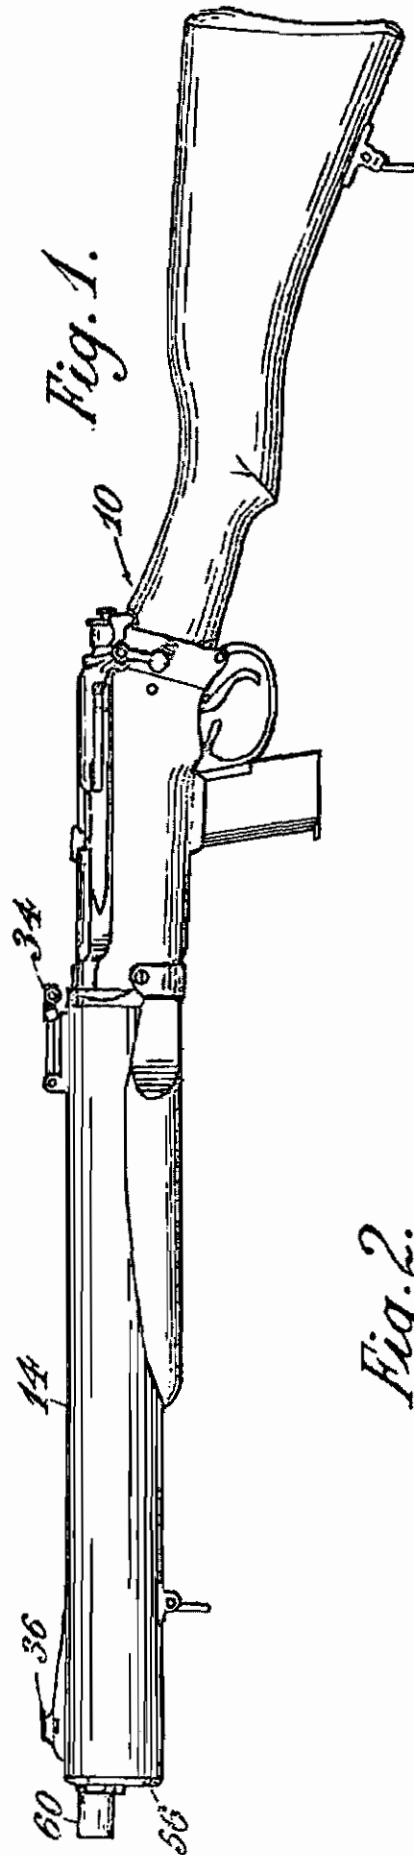
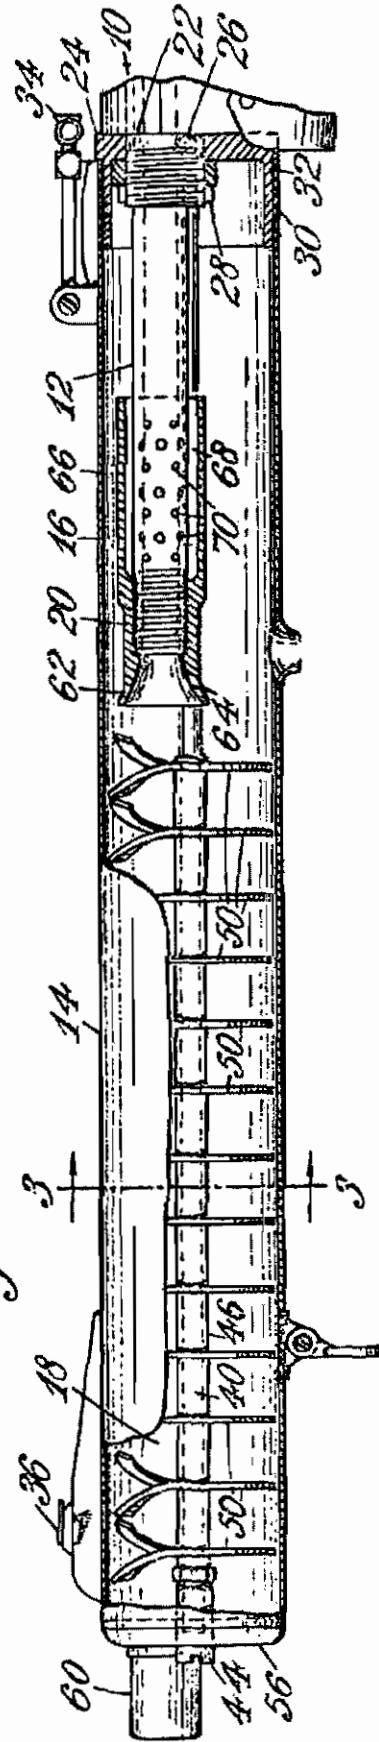
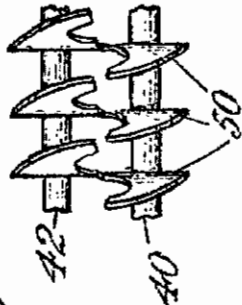

Fig. 2.
Fig. 3.
Fig. 5.
Figure 2 is a vertical longitudinal section showing the silencer on a scale larger than that of Figure 1,
Figure 3 is a detail sectional elevation taken on the line 3—3 in Figure 2, showing a baffle-plate,
Figure 5 is an end elevation of the silencer as viewed from the left-hand end of Figure 2, and
The front end baffle-plate, of which baffle plates there may be about 13, is spaced away from an end flat plate 56, shown most clearly in Figure 5, situated at the front outer end of the casing. This plate 56 has in its lower portion an arcuate row of relatively small powder-discharge holes 58 adjacent to that part of its periphery which lies at the bottom of the casing. A short gas discharge tube 60 is carried by this plate 56 so as to lie in line with the perforation 52 and the barrel 12.
16. Silencing means according to Claim 1 as shown in Figures 2, 3, 4, 5 and 6, or modified according to Figures 7 and 8 of the accompanying drawings. 25